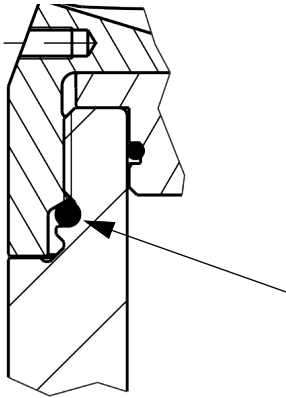

Fig. 9: Intended position of the O-ring
- To be able to lock the ring (cover ring) completely: Make sure that the O-ring of the housing is in the intended position (Fig. 9).